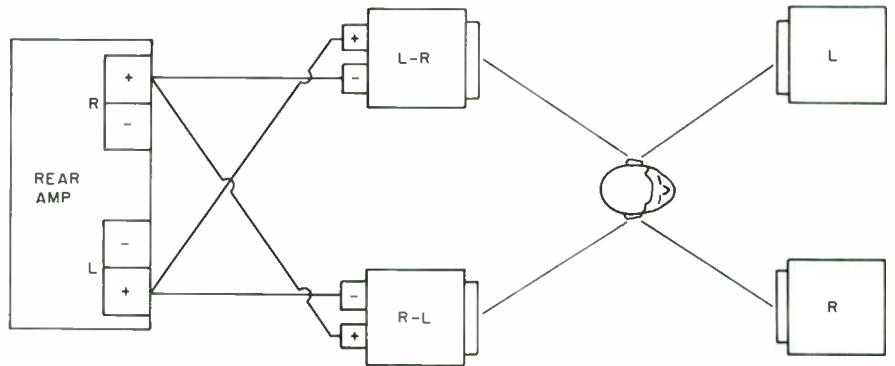

FIGURE 4: Rear speakers wired with L-R and R-L signal.
cases, you also hear the recording's reverberation in your listening room. This may prevent your ear from imagining it is in a large concert hall. Partial solutions are: (1) apply acoustic foam to your walls and carpet your floors heavily, and/or; (2) sit closer to your speakers to decrease the relative loudness of your room's response, and/or; (3) add more reverberation to your recording via a time delay/reverberation device. For (3), I have experimented with adding rear speakers wired as below, Fig. 4, since the L-R and R-L signal contains much of the reverberation of the recording. (Actually you can make do with a single rear speaker with L-R.) More sophisticated approaches to (3) are used in commercial units made by Sound Concepts and in the new Yamaha DSP-1 (reviewed everywhere in recent months).